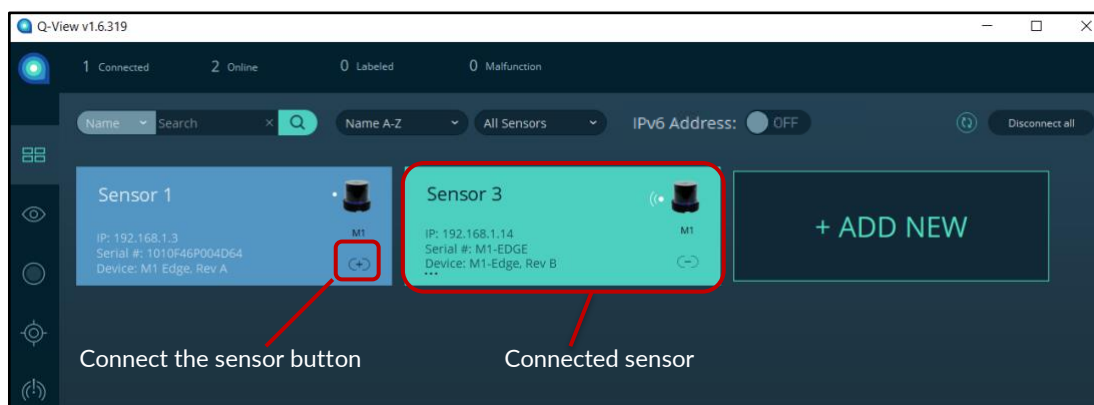

Figure 21. Connect Sensor Button
- Connect a sensor. See Connect to an Online Sensor (page 49) and Figure 21. Connect Sensor Button.